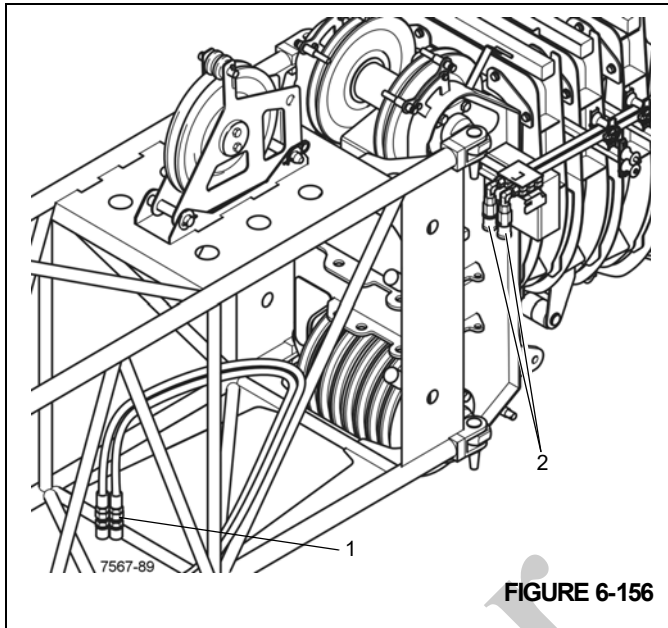

FIGURE 6-156
5. Disconnect the short end hoses (1), (Figure 6-156) from the 26 ft (8 m) extension from the boom nose connectors (2), (Figure 6-156).